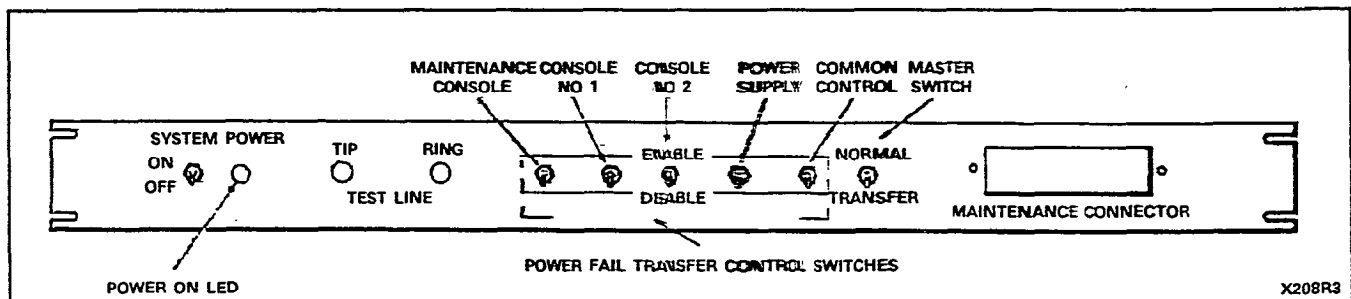

Figure 4-4 Maintenance Panel
4.40 At the top of the equipment cabinet is the maintenance panel (Figure 4-4). This panel provides the service personnel with access to the system through the maintenance console connector and test line terminals. Also housed on the maintenance panel are the six Power Fail Transfer Control switches, a system Power ON/OFF switch and a Power ON LED.